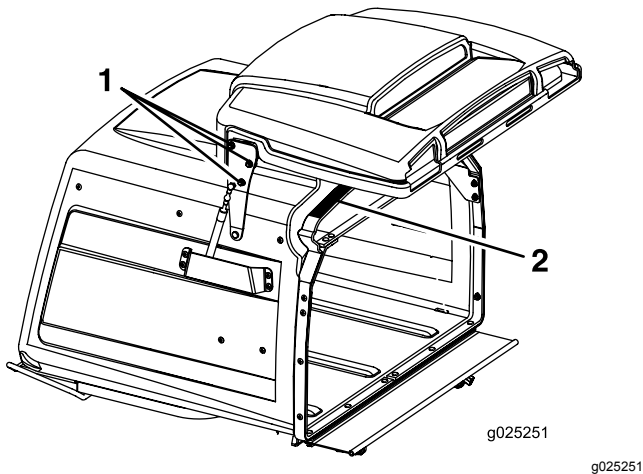

Figure 57
3. Loosen the 6 door hinge nuts (Figure 57).
4. Open the door and place a 3/8 inch (9.5 mm) rubber strip or 3/8 inch (9.5 mm) diameter hose between the hopper and the hopper door (Figure 57).